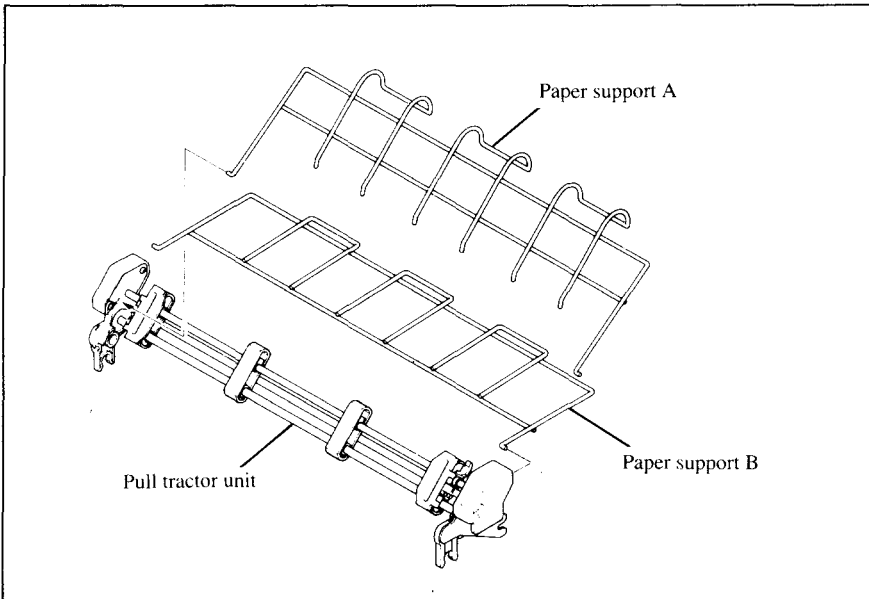

Figure 3-12. Mount the paper support A and B onto the Pull Tractor Unit.
4. Squeeze the sides of the paper supports lightly, and insert into the holes on both side of the Pull Tractor Unit as shown in Figure 3-12.